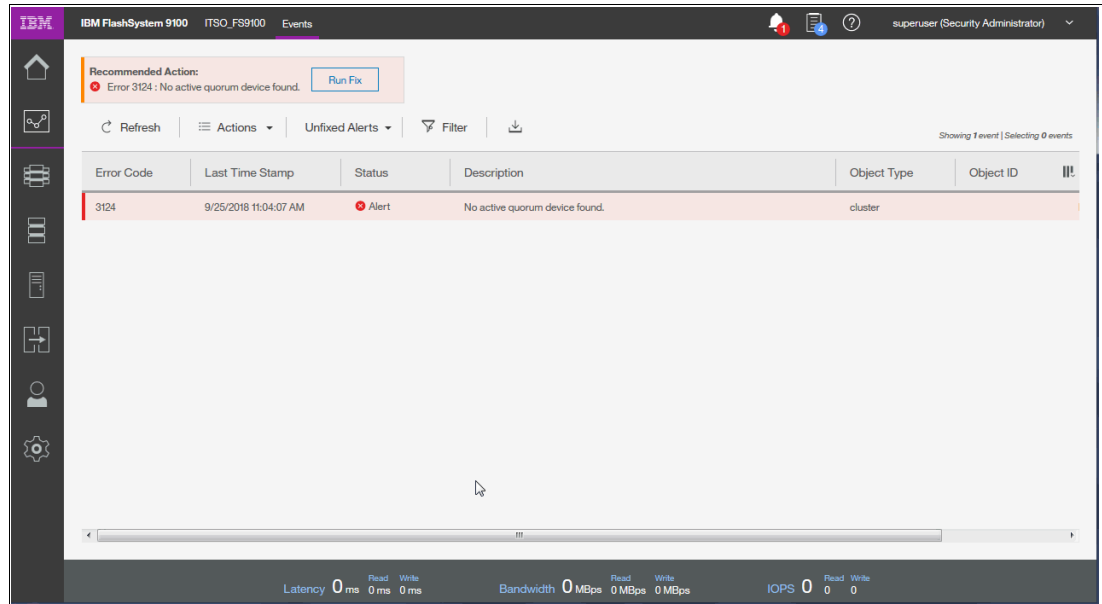

Figure 5-45 Error Code 3124 - No Active quorum device found
10. An error displays in the Event Log, Error Code 3124 No Active quorum device found, as shown in Figure 5-45. The error can be cleared by running **Run Fix** wizard or can be ignored until MDisk, and Storage Pool is created.